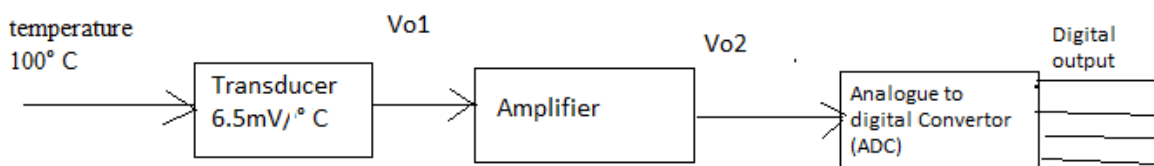

Figure Q2b
- b) An instrument system to convert temperature into a Digital output is shown in figure Q2b. The transducer has a sensitivity of $6.5\text{mV}/^\circ\text{C}$ and must measure up to 100°C . An 8 bit ADC is used with a 15 volt reference. Determine